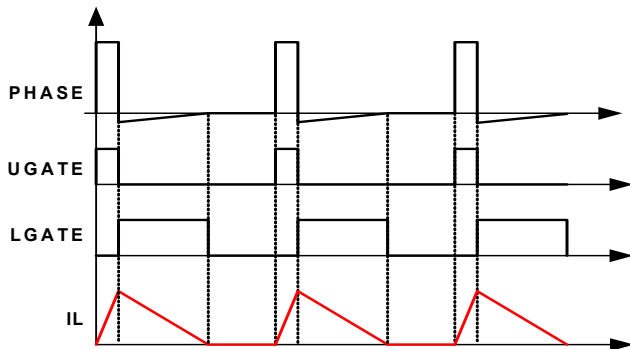

FIGURE 12. DIODE EMULATION
The ISL62773A can operate in Diode Emulation (DE) mode to improve light-load efficiency. In DE mode, the low-side MOSFET conducts when the current is flowing from source to drain and does not allow reverse current, thus emulating a diode. As Figure 12 shows, when LGATE is on, the low-side MOSFET carries current, creating negative voltage on the phase node due to the voltage drop across the on-resistance. The ISL62773A monitors the current by monitoring the phase node voltage. It turns off LGATE when the phase node voltage reaches zero to prevent the inductor current from reversing the direction and creating unnecessary power loss.
If the load current is light enough, as Figure 12 shows, the inductor current reaches and stays at zero before the next phase node pulse, and the regulator is in Discontinuous Conduction Mode (DCM). If the load current is heavy enough, the inductor